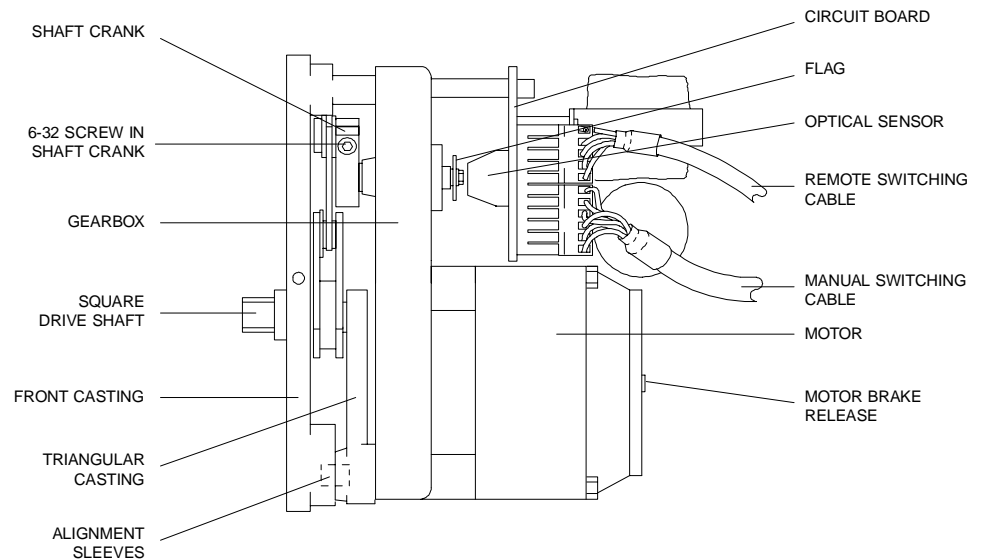

Figure 17: Identification of actuator parts
As noted above, the shaft crank screws onto the threaded output shaft extending from the gearbox. On the opposite end of this shaft is a thin metal "flag" which operates in conjunction with two optical sensors to signal the motor to start and stop. (**Figure 17**) For the actuator to function properly, this flag must be positioned in correct relationship to the newly installed crank assembly.
3. Turn the actuator cover so that the writing is upside down and slide it on the actuator far enough to allow the connectors to be plugged back onto the board. The manual switching cable has six wires, while the remote switching cable has only five. They connect to the same row of eleven pins, with the six wire connector closest to the motor. (See **Figure 17**.) The three wire lead which supplies power goes on with the green wire to the outside. Plug in the actuator.